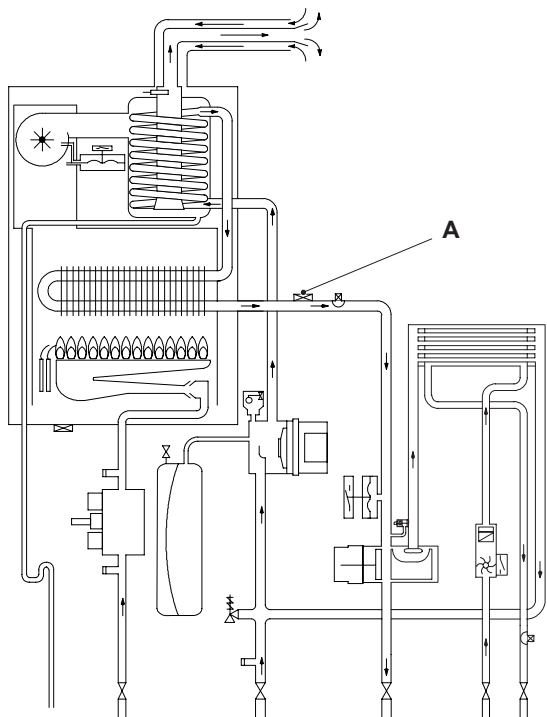
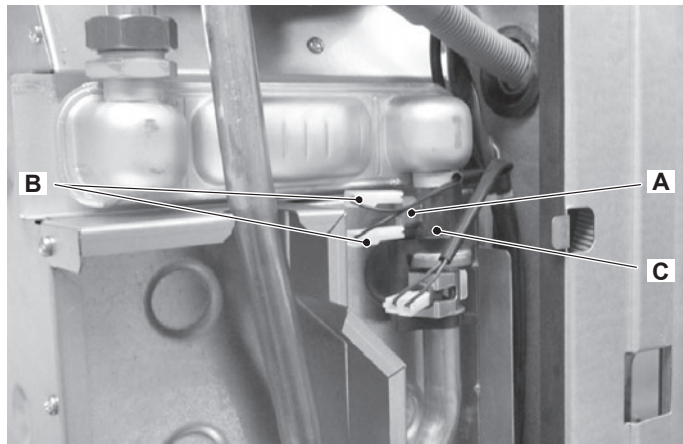

Figure 19.1
Figure 19.2
The safety thermostat A in Figure 19.1 and Figure 19.2 is a device that senses the temperature of the primary circuit water which flows in the outlet pipe of the primary heat exchanger. If the temperature control system of the boiler fails and the temperature of the primary circuit reaches a dangerous temperature, the safety thermostat opens the electric circuit that supplies the on-off operators of the gas valve. Consequently, the full sequence ignition device attempts to light the burner and, at the end, locks the boiler and lights the lock-out signal lamp.
- 2 Disconnect the wiring B (Figure 19.2).